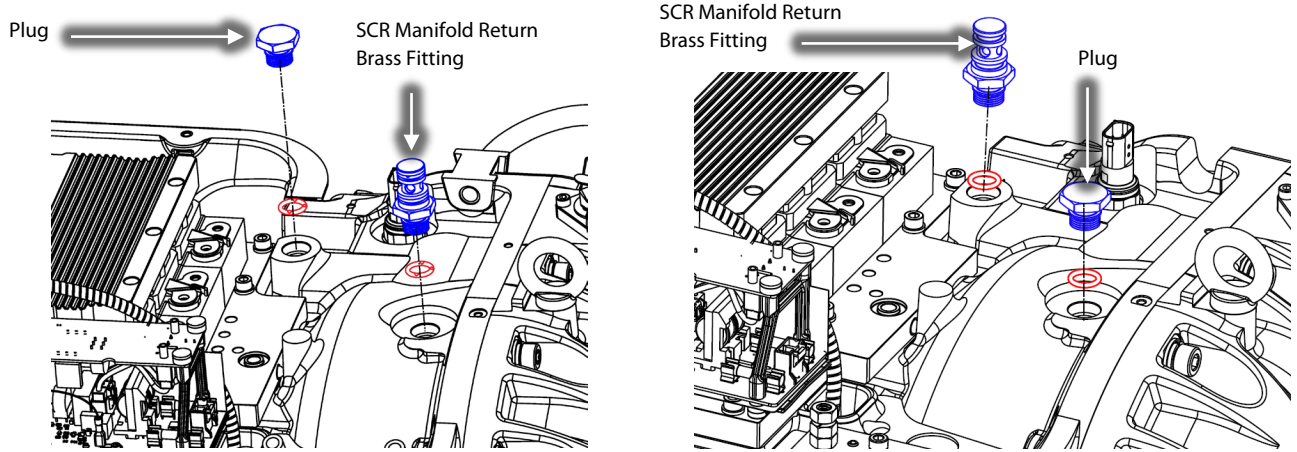

Figure 2 – Plug and SCR Manifold Return Brass Fitting Locations
2. Remove the SCR Manifold Return Brass Fitting. Refer to Figure 2 – Plug and SCR Manifold Return Brass Fitting Locations for this and the following three steps
3. Figure 2 – Plug and SCR Manifold Return Brass Fitting .
7. Figure 2 – Plug and SCR Manifold Return Brass Fitting
11. Install the SCR Manifold Return Brass Fitting into the compressor housing (where the Bass Plug was previously installed) and torque to 7 Nm (62 in.lb). Refer to Figure 2 – Plug and SCR Manifold Return Brass Fitting Locations
12. Figure 2 – Plug and SCR Manifold Return Brass Fitting for this and the following two steps.